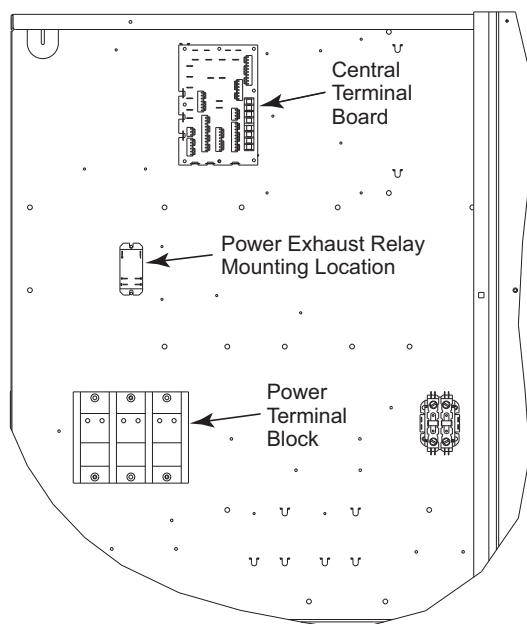

Fig. 1 - Power Exhaust Relay Installation
4. Install the Power Exhaust Relay (PER) in the control box, at the position shown in Fig. 1, using two 8-18 x 1/2" pan head screws (AL56AU166).